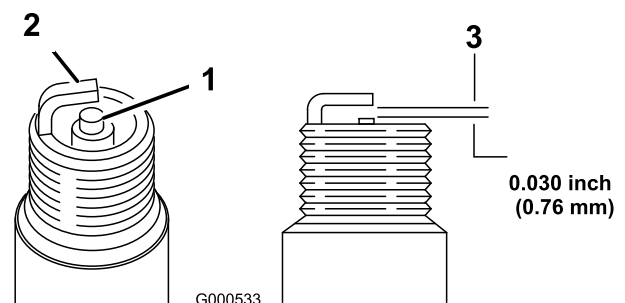

Figure 26
5. Set the gap on the new plug to 0.030 in. (0.76 mm) (Figure 26).